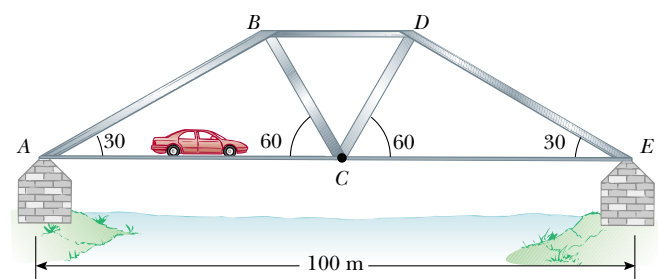

Figure P12.69
69. A bridge truss extends 100 m across a river (Fig. P12.69). The structure is free to slide horizontally to permit thermal expansion. The structural components are connected by pin joints, and the masses of the bars are small compared with the mass of a 1500-kg car halfway between points A and C. Show that the weight of the car is in effect equally distributed between points A and C. Specify